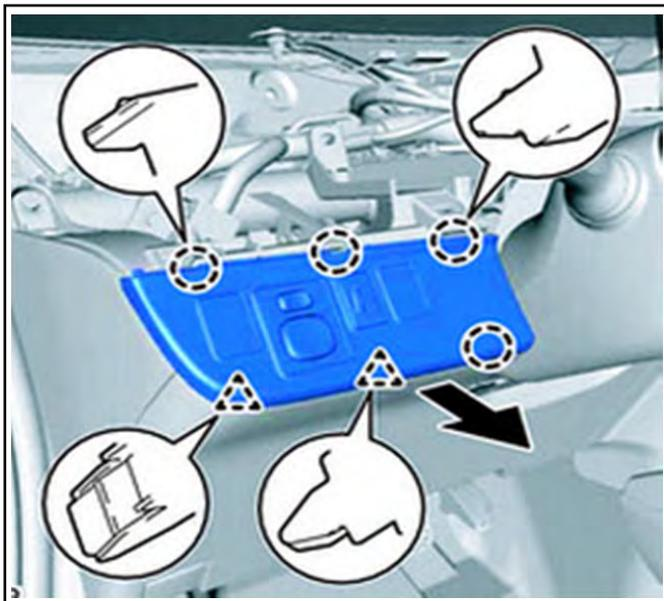

Figure 7
7. Disengage the 4 claws and 2 clips as shown in the illustration. Disconnect each connector and remove the No. 1 switch base. See figure 7.